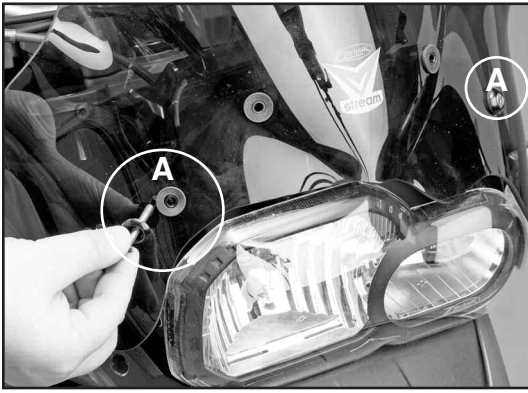

Figure 15
10. Start at the outer mount locations (A) and install windscreen using screw assembly as shown in figure 15 and Diagram c. **Do not fully tighten at this time.** (5mm Hex Wrench, Closed Box Wrench) Figure 15, Diagram c